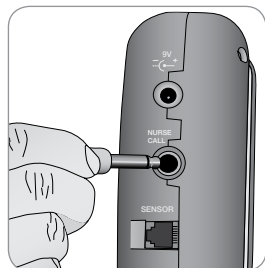

Fig. 20
1. Insert one end of cable into "Nurse Call" jack on right side of alarm (Fig. 20). Use care not to plug into sensor outlet as damage to sensor outlet could occur.